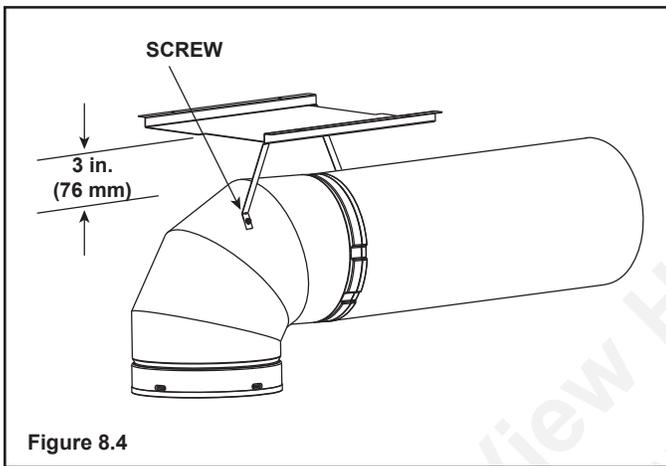

Figure 8.4
- If the combustible materials are not in place at the time of install the elbow heat shield may be screwed to the exhaust pipe (see Figure 8.4). Cut the tabs as shown and bend down. Secure the heat shield to the pipe maintaining 3 inch to 4 inch between the pipe and shield.